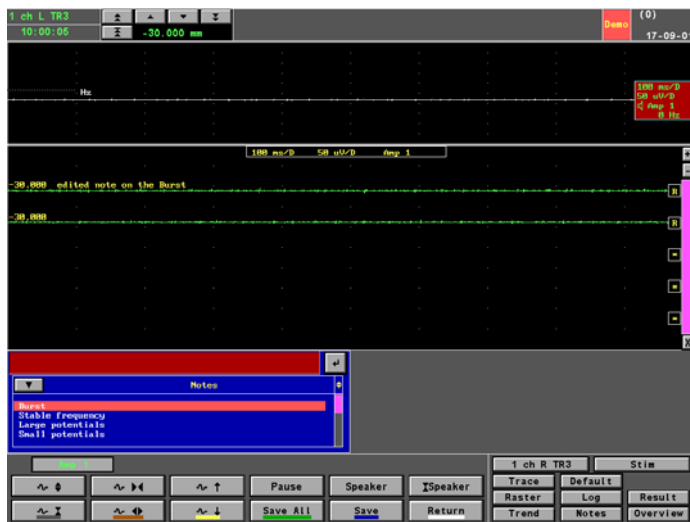

Figure 15 Raster Window: "Edited Note on the Burst". Scroll Bar and Window Buttons.
- Now you can edit the note, or add more text, for example "edited note on the Burst", see Figure 15.
When a trace is saved, the previously entered note is attached to it. The note will be displayed left-most, and just above the trace in the Raster Window, see Figure 15 below.